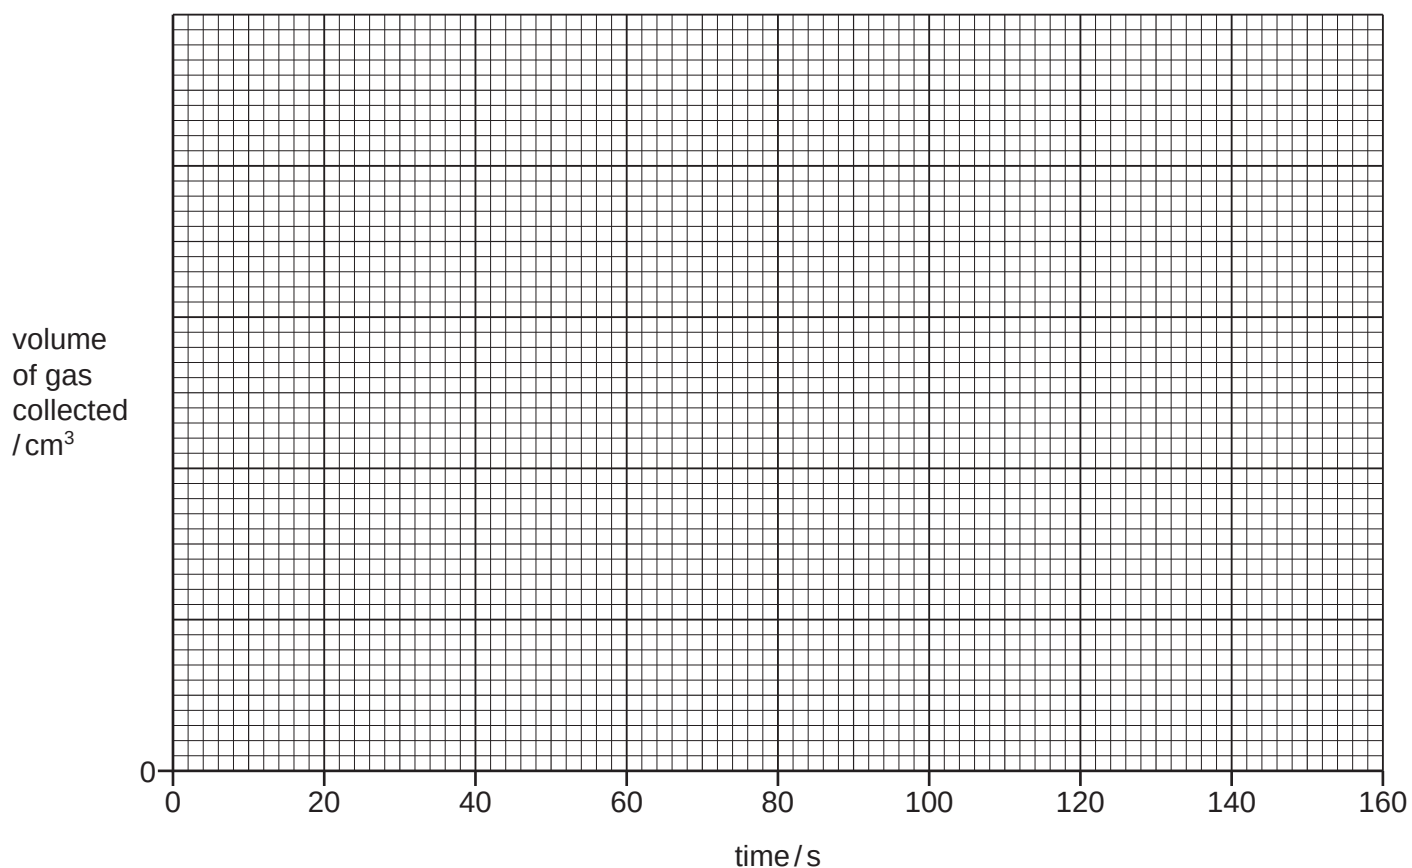

Fig. 2.2
- (c) Complete a suitable scale on the y-axis and plot the results for Experiments 1 and 2 on Fig. 2.2. Draw two lines of best fit. Both lines **must** start at (0,0). Label your lines.
- (d) Deduce the volume of gas collected between 20 seconds and 40 seconds in Experiment 1. Show clearly on Fig. 2.2 how you worked out your answer.
- (e) Use Fig. 2.2 to explain which experiment had the faster rate of reaction.
(i) Sketch on Fig. 2.2 the graph you would expect when Experiment 2 is repeated using ethanoic acid with a higher concentration.